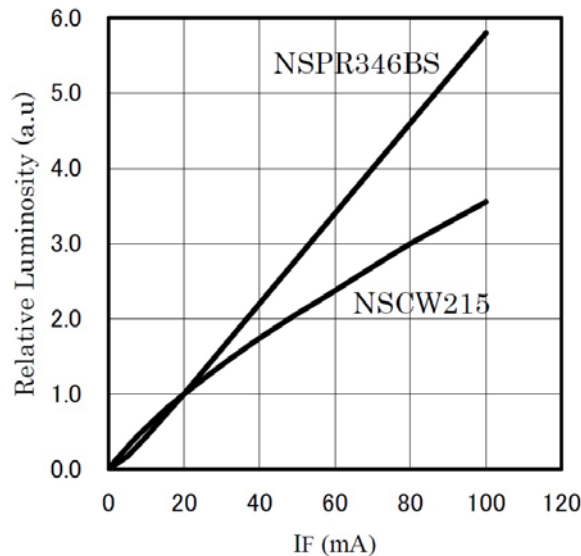

Figure.1: Forward Current vs. Relative Luminosity of NSCW215 (White) and NSPR346BS (Red)
i) Please refer to Figure.1 for NSCW215 (White LED).
a) The Figure.1 shows:
b) Also the Figure.1 shows: